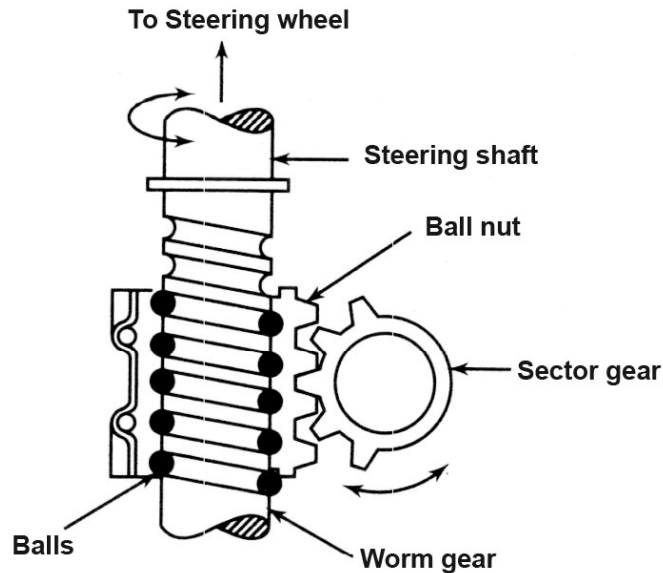

Fig. 2.10 Worm and nut with re-circulating ball steering gear
- **Worm and nut with re-circulating ball steering gear box:** In this type of steering gear, a ball nut is mounted on the worm as shown in fig. 2.10. The steel balls are provided between the worm grooves and ball nut. The steel balls ensure a smooth and frictionless drive. The teeth on the ball nut meshes with the teeth of the sector gear mounted on the shaft (sector shaft). When it is desired to turn the vehicle the steering wheel is move. As the steering shaft rotates, the worm forces the ball to roll in the grooves. The balls as they roll, forces the ball nut to move up or down the worm. The up and down movement of the ball nut is transmitted to the sector shaft, which will make the sector shaft to rotate. This type of steering gear produces a light steering feel but has a complicated construction. This type of steering gear box is widely used in heavy vehicles.